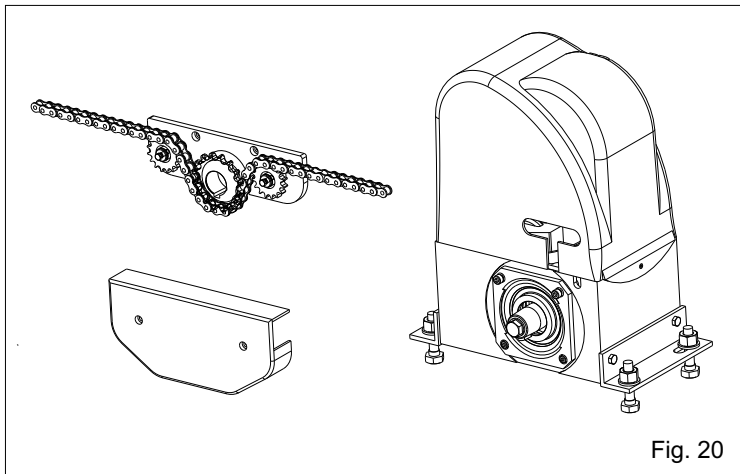

Fig. 20
The assembling of the main parts which include the whole chain automation is illustrated in Fig. 20.
10.2. Install the chain making it pass through the pinion group as in Fig.20.